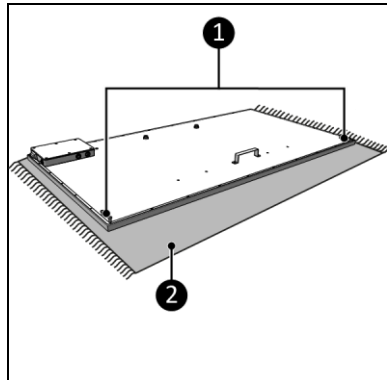

Figure 8
1. Lay the device down on a steady, soft surface (Figure 8, pos. 2).
2. Remove the bottom screws (4x) on the back of the heater (Figure 8, pos. 1).